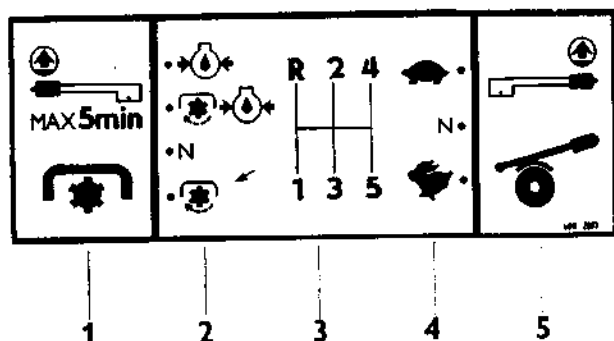
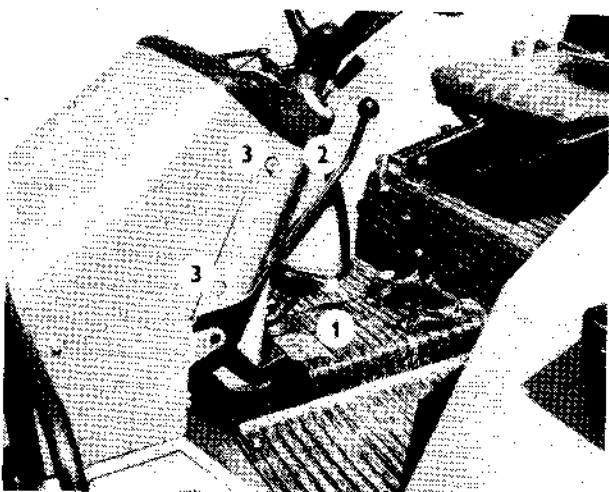

Fig. 3
Fig. 18
(Fig. 3/1, 2, 3, 4, 5)
The fuse box is accessible after removing the cover which is locked by two quick-closing devices (Fig. 18/3) and is located underneath the dashboard on the right side on a bracket. The fuse box is eight-pole and contains consumer fuses (15 A).
2. Gear shift lever (Fig. 18/2), gear-shifting diagram (Fig. 3/3).
4. Clutch pedal (Fig. 18/1).